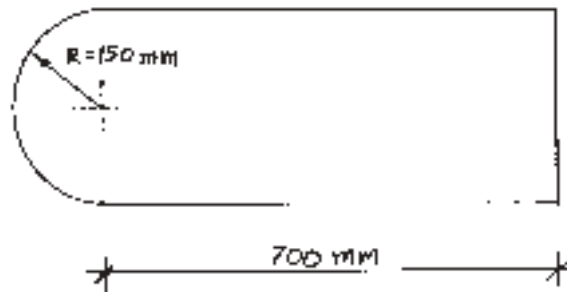

Fig. No. 7
- a) Locate the centroid of a lamina as shown in Figure No. 7